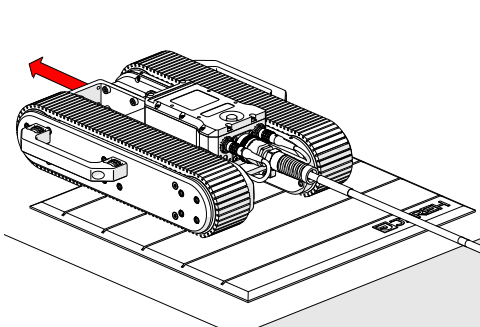
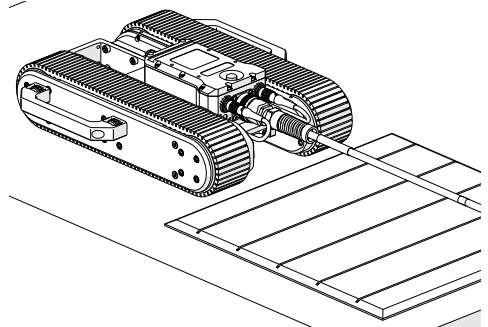

Fig. 84 - Drive crawler off the mat
Fig. 85 - Magnetized to surface
4. Ensure the tracks of the crawler are held firmly against the installation/removal mat. While holding the crawler, use **Jog Mode** (see “Jog Mode” on page 59) to carefully drive (Fig. 84) the crawler off the installation/removal mat and onto the inspection surface (Fig. 85).
5. Once the crawler is securely on the inspection surface, the user may let go of the crawler (Fig. 85).